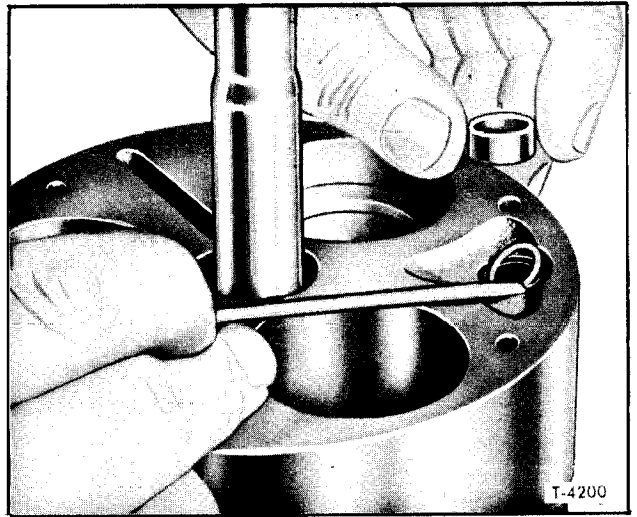

Figure 59—Installing Discharge Crossover Tube, Front O-Ring, and Spacer
3. Install the discharge cross-over tube front O-ring and spacer (figure 59).